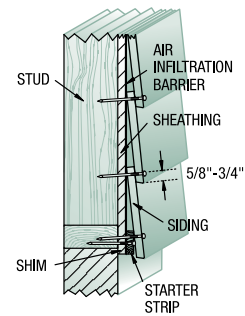

FIG. 4
- Although not recommended, where 24" o.c. vertical framing is used, wood-based sheathing is required. Follow product-specific nailing pattern (see Fig 4). Nail to framing 24" o.c. with intermediate nailing 12" o.c. to sheathing with a 6d galvanized ring shank nail or equivalent. This effectively creates a 12" o.c. nailing schedule.